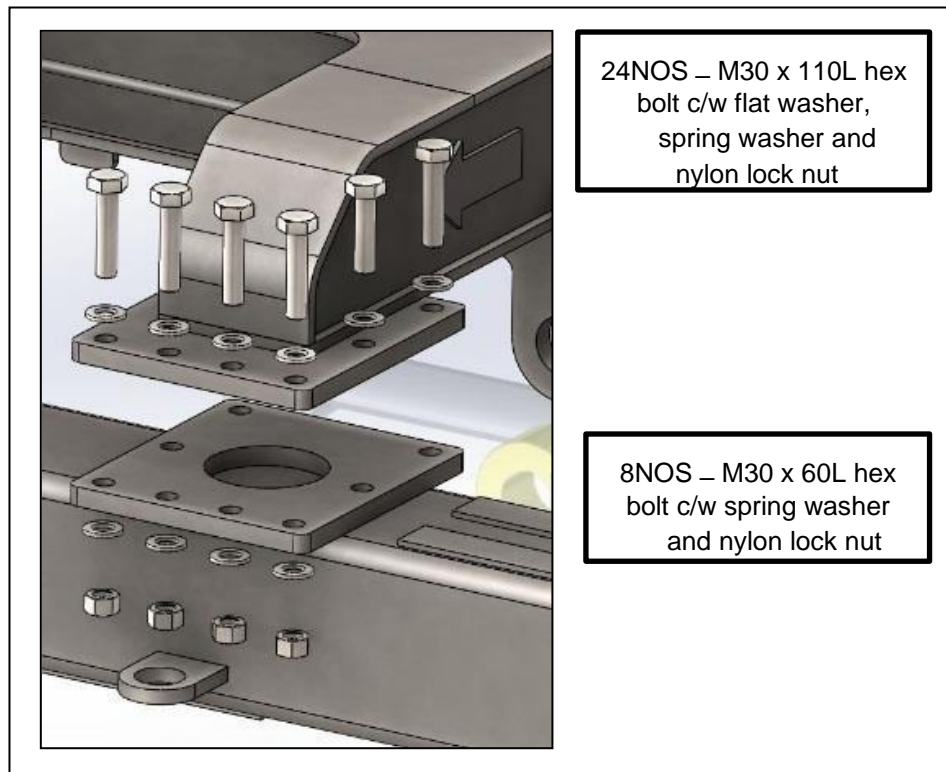

Figure 6.6
5. Tighten the slewing frame upper mounting flange onto the bottom mounting flange as shown in Figure 6.6. There are a total of 32 bolts at the four corners that need to be tightened.